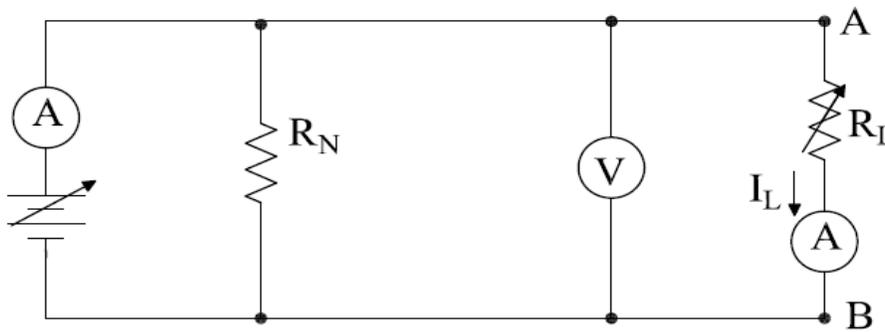

Fig.3.b: second lab. circuit
4. measure R_N practically and connect Norton equivalent circuit as shown in Fig.3.b.
1. Calculate I_{total} and V_i theoretically from Fig.3.a and Fig.3.b, then record your results in Table (2)